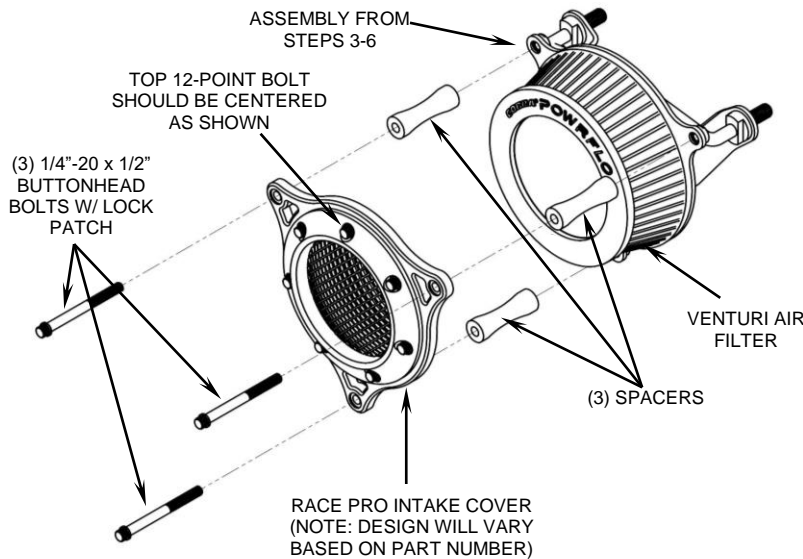

FIGURE 3
11. Place the RACE PRO intake cover over the air filter so that there is a 12-point bolt centered between the top two mounting holes. See **FIGURE 3**.
12. Insert the 2-3/4" long 12-point bolts through the 3 outer holes in the intake cover and through the spacers to the base mounting plate threaded holes. See **FIGURE 3**. Snug the (3) bolts evenly until the intake cover tightens down onto the spacers. Then tighten the bolts securely.